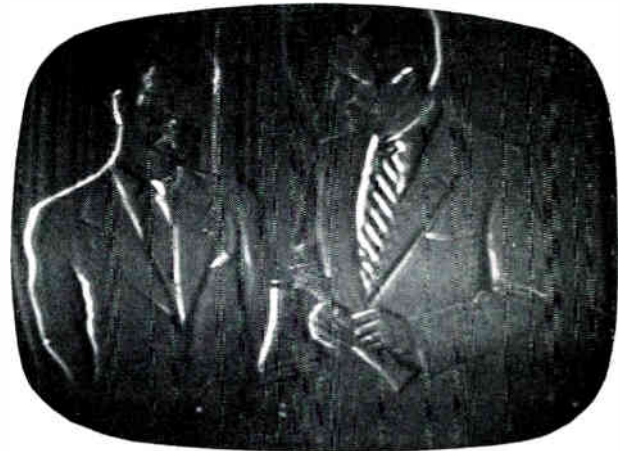

**Fig. 3.** Power supply circuit used in General Electric Model 20C150, 20C151 and 24C101 receivers.
**Tele-Clue No. F-146.** The condition shown above is quite similar to that shown in Tele-Clue M-141. This condition, however, was caused by a low emission 5U4-G rectifier tube V129 in Fig. 3. Since this is the tube which supplies the B+ for the horizontal sweep output tube, a reduction in the B+ voltage will result in a reduction of the amplitude of the pulse applied to the plate of the keyer tube shown in Fig. 1. In addition, the normal operating voltages for this keyer tube are also changed. This
**Tele-Clue No. F-147.** The above condition was caused by an open input filter capacitor C600A shown in Fig. 3. This caused practically the same type of picture as Tele-Clue M-141. The amplitude of the waveform at the plate of the keyer tube in Fig. 1 was about two thirds of the normal amplitude. The AGC circuit shown in Fig. 2 was not affected by an open filter. The only change in the picture was a reduction in size and horizontal hum bars.
**Tele-Clue No. F-148.** If the output capacitor C602A in Fig. 3 is open, the AGC voltage is not affected and the only noticeable change to the picture is a slight shading on the right side as shown above. The amplitude of the waveform at the plate of the keyer tube in Fig. 1 was reduced about ten percent but this was not enough to affect the picture quality. The AGC circuit in Fig. 2 was not affected by an open filter capacitor.